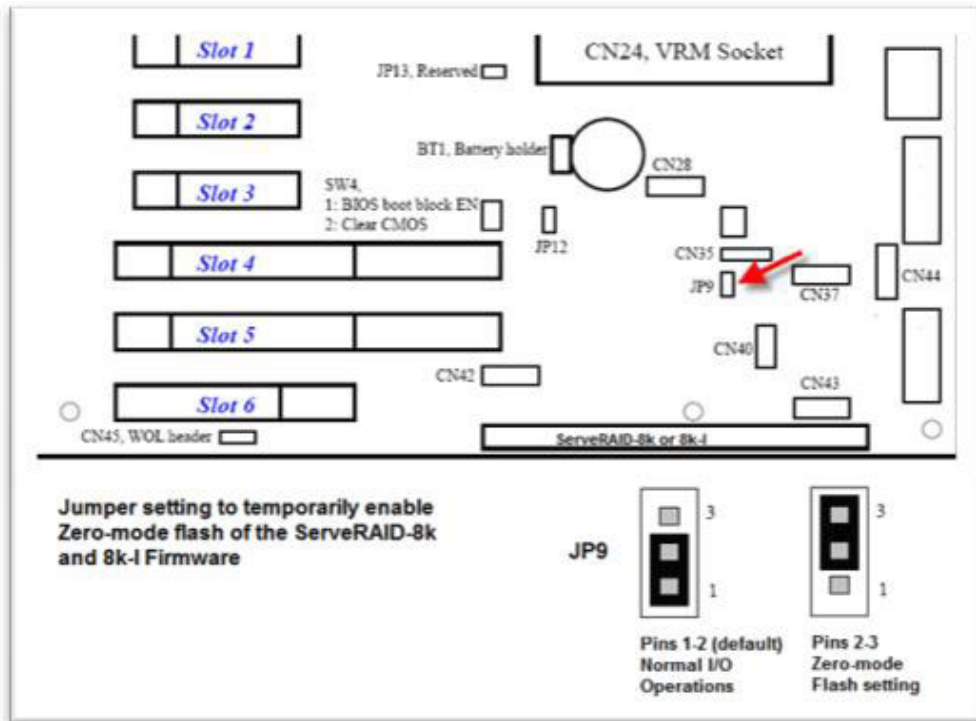

Figure 7. JP9 jumper pins 1 and 2 and 2 and 3
5. Move the jumper from pins 1 and 2 to pins 2 and 3 to enable the zero-mode flash (see Figure 7).